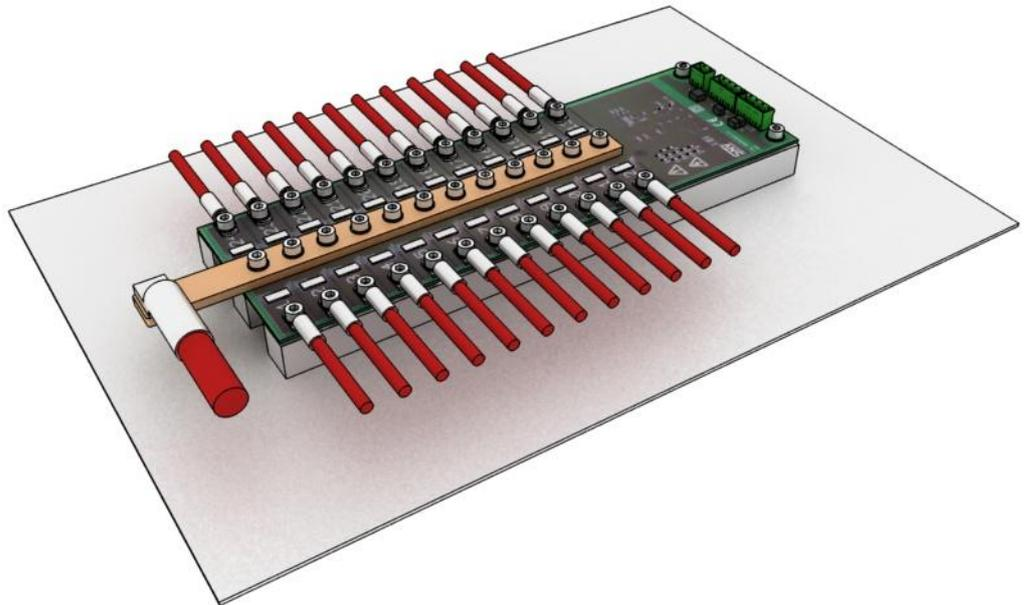

Figure 10: Mounting the common current cable on the CMC SNV018EC
5. Mount the common current cable on the common bar using M5x10 (DIN912 or DIN933) bolt and star washers (DIN6798A), as illustrated in figure 10.